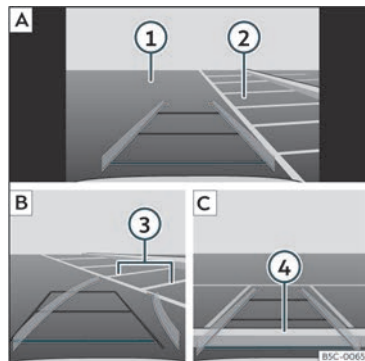

Fig. 196 Display on the Infotainment system screen.: parking with reverse assist.
Key to the Fig. 196:
- Place the vehicle in front of the parking space >>> **Fig. 196** ② .
- Reverse while turning the steering wheel so that the yellow lines enter the parking space. The green and yellow lines must match the side boundary lines ③ .
- Stop the vehicle when the red line has reached the rear boundary ④ .